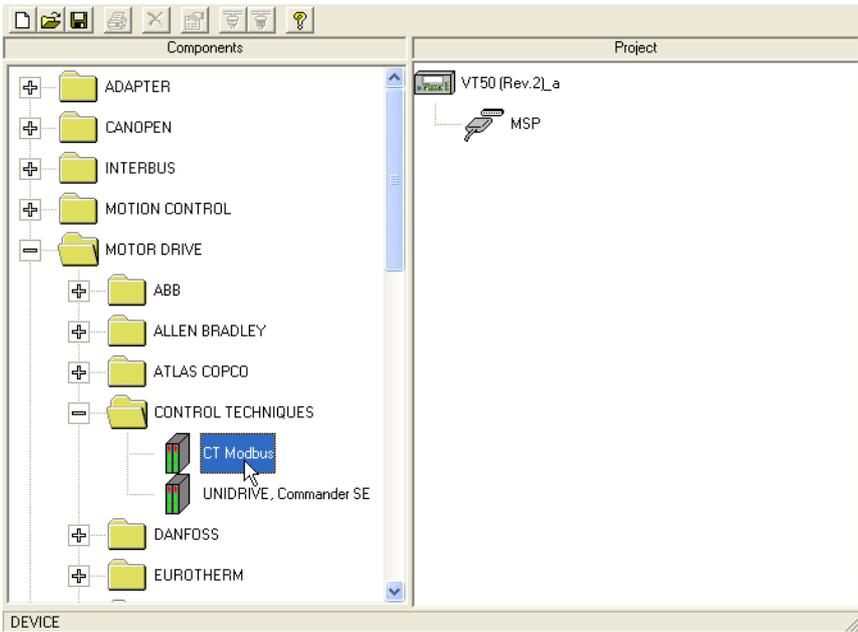

Fig.3.
3.3 From the next screen that comes up, double-click on the MOTOR DRIVE folder, then on the CONTROL TECHNIQUES folder. Highlight the CT Modbus protocol (see Fig. 3)